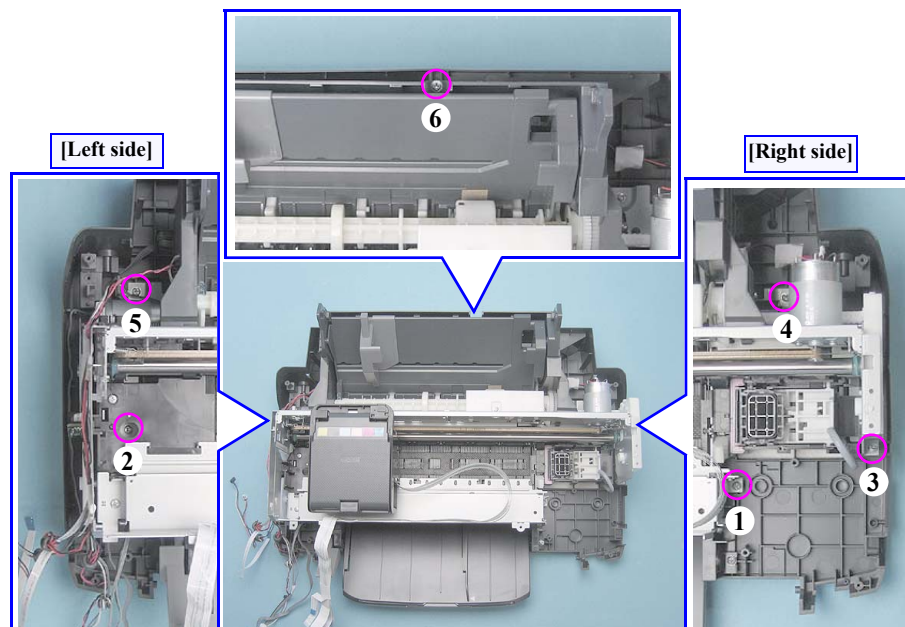

Figure 4-86. Removing the Screws (Printer Mechanism)
- Tighten the screws in the order given in Fig.4-86.